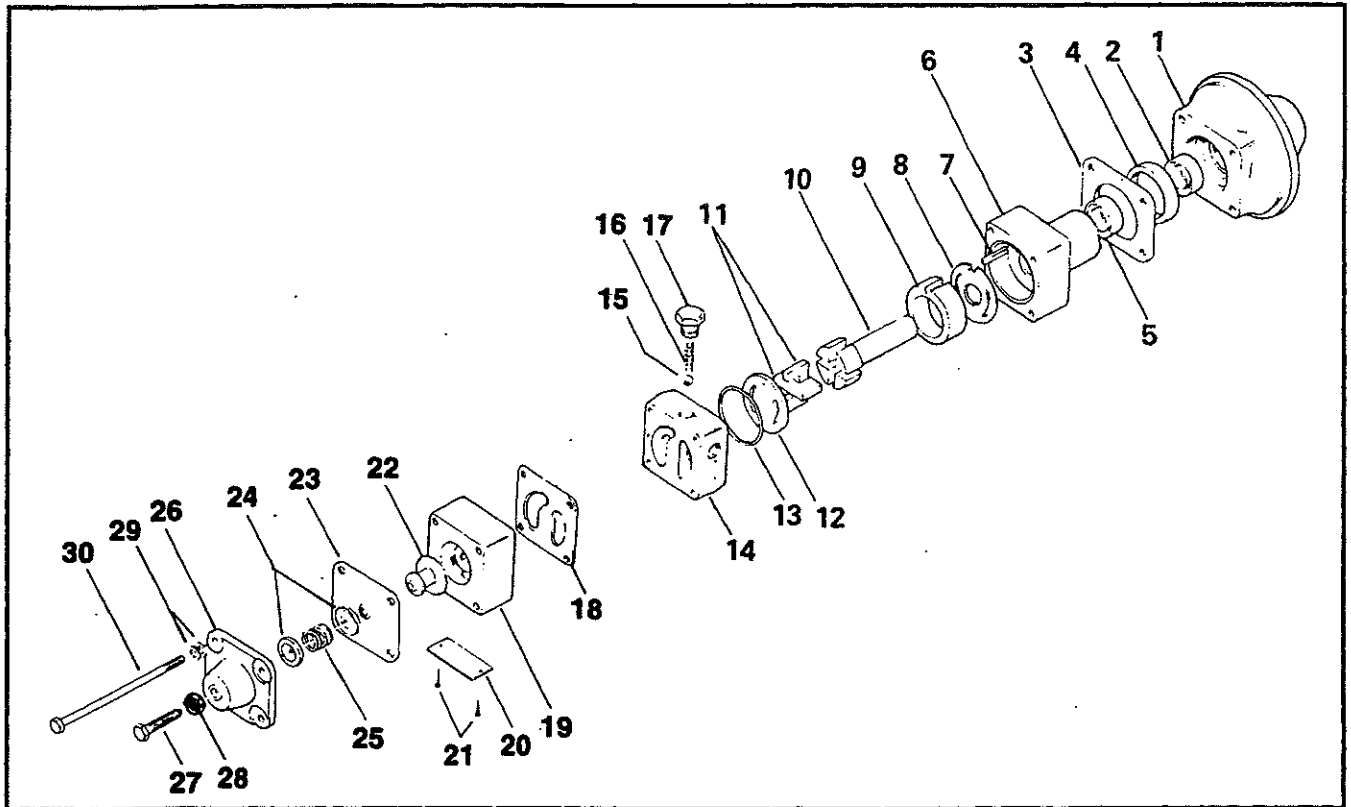

FIGURE 40-04. FUEL PUMP ASSEMBLY
A. Place pump in suitable fixture and remove all lockwire; and fittings if necessary. Refer to exploded view (Figure 40-04) and proceed as follows: Loosen screw (27) to relieve pressure on relief valve spring. Remove four bolts (30) and washers ((29). Separate parts (5) through (13), basic pump from (14) through (17) mixture control body and relief valve section. Disassemble relief valve body and related parts (19) through (27).
B. Disassembly of the basic pump should be accomplished in the following manner: Remove the adapter (1) and insulator (3) from the basic pump. Remove seal (2) from adapter (1) and bushing (4) from insulator (3). Hold pump body firmly in palm of hand, end plate (12) down, and apply pressure to drive end of shaft (10) forcing end plate (12) end plate seal (13) blades (11) and shaft (10) from pump body. Remove seal (5) and discard. It is important to note the liner position relative to the rotation marking found on the top surface of the liner. It must be installed with the proper marking (C or CC) in the up position.
A. Reassemble basic pump (5 through 13) in reverse order of disassembly. Refer to Figure 40-04 and install seal (5) in body (6). Install pin (7), plate (8) and liner (9) in body (6). Be sure liner is installed with proper rotation lettering visible.
B. Inspect body (19) plunger seat. It must be free of nicks and scratches. In order to insure proper seating contact of the plunger (22), check pin for nicks, etc. Place small amount of lapping compound on the plunger (22) seat and lap lightly for 100% contact. Wash parts thoroughly before assembly.
C. Insert new ball (15) in by-pass opening andpeen lightly to seat. Install new spring (16) and plug (17). Install gasket (26), relief valve body (19) and plunger (22) on mixture control body assembly (14). Install relief valve diaphragm (23), plate (24) spring (25), and plate (24) in this order. Before installing cover assembly (26), turn in adjusting screw (27) sufficiently to extend beyond nut to a distance equal to the depth of the depression in top plate (24). This will insure proper alignment of these parts.
D. Install Belleville washers (29) on bolts (30) and install through stacked parts. Tighten sufficiently to hold parts alignment until four bolts are in place. Torque bolts (30) to 30* 1 inch pounds.
CAUTION . . . Belleville washers (29) are special and must be installed with concave surfaces facing each other. Should it be necessary to remove these washers once they have been torqued, they must be replaced. (Refer Installation Figure 40-04.)
F. Install fittings as required. Leak test and calibrate according to instructions in the Calibration Section. Lockwire bolts (30) after calibration to complete overhaul.